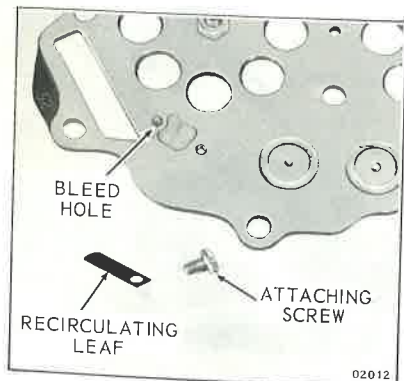
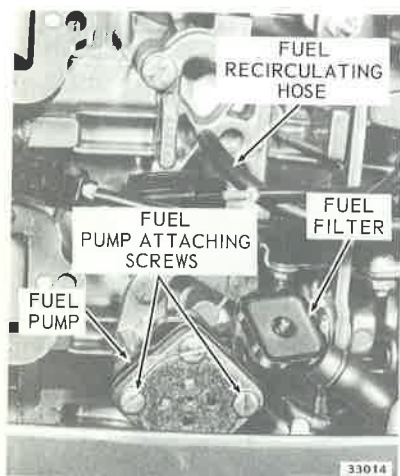

Figure 3-17A. Fuel Recirculating Valve
Figure 3-21. Fuel Filter
a. The recirculating valve ordinarily requires little or no attention; however, when servicing the motor, remove and clean the valve. See Figure 3-17A. Check fuel line to by-pass cover. See Figure 3-21.
Before replacing fuel pump, remove and clean fuel filter, and install a new filter element. See Figure 3-21. Also remove the fuel line from the fuel tank and blow through all passages and lines with compressed air to be sure they are open. This may be the cause of inadequate fuel delivery, and if so, would eliminate unnecessary replacement of the fuel pump. If this procedure does not correct the trouble, fuel pump is probably malfunctioning and should be replaced.
c. To remove fuel pump, remove two screws attaching pump and filter assembly to power head, and remove pump and filter assembly. See Figure 3-21.
b. Inspect the filter screen for accumulation of sediment by removing the filter cap screw and the filter cap. See Figure 3-21.